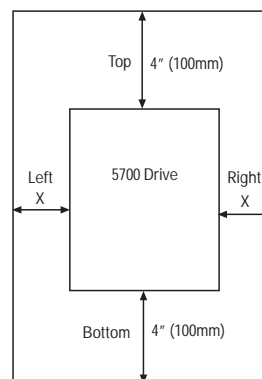

Fig. 2-2-1 30 HP or less: Gap X can be 0. (side-by-side installation) 40HP or more: Gap X >= 2.0" (50mm)
1. Securely fasten the product in an upright position on a solid structure with the tag 5700 facing the front. Do not turn the product upside down or install in a horizontal position. Fig. 2-2-1
2. Since heat is generated during drive operation, the spaces shown in Fig. 2-2-1 are required to ensure sufficient cooling. Do not install the product beneath a device sensitive to heat as heat radiates upward.